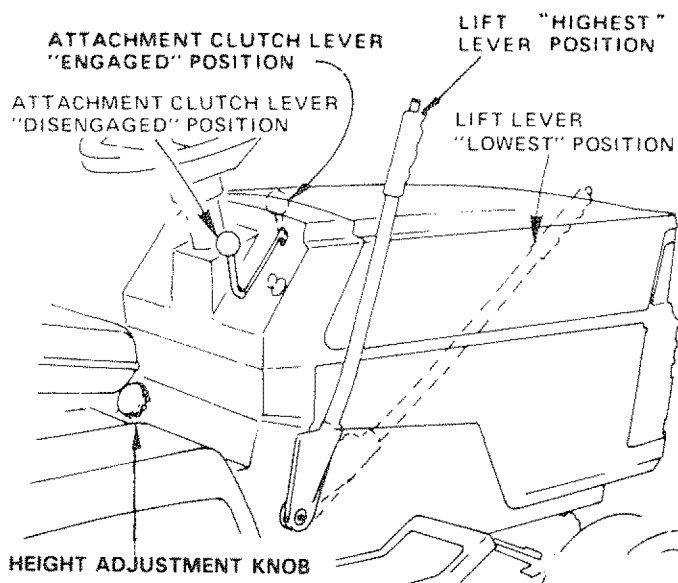

FIGURE 9
- Raise lift lever (Fig. 9) to its highest position.
- Turn height adjustment knob counterclockwise (↺) to lowest position (Fig. 9).
- Place attachment clutch lever in "disengaged" position (Fig. 9).
- Move attachment lift lever (Fig. 9) forward to lower mower to its lowest position.
If the attachment clutch lever (Fig. 9) travels 3-1/2" up the slot in the dash before spring tension resistance is evident, adjustment is necessary. NOTE: CHECK FOR PROPER SPRING TENSION WITH ENGINE OFF AND LIFT LEVER IN HIGHEST POSITION.